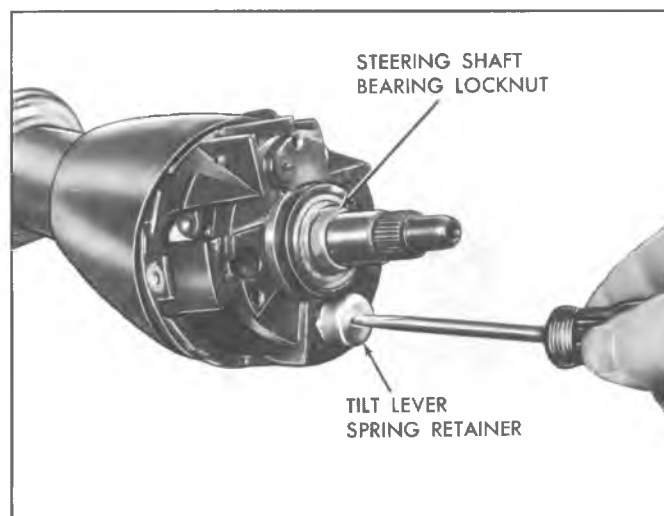

Fig. 22—Removing Tilt Spring and Retainer
- the full "up" position. Remove the tilt lever spring and retainer using a screw driver that just fits into the slot opening (fig. 22). Insert the screw driver into the slot, push in approximately 3/16", rotate clockwise approximately 1/8 turn until the retainer ears align with the grooves in the housing and remove the retainer and spring.